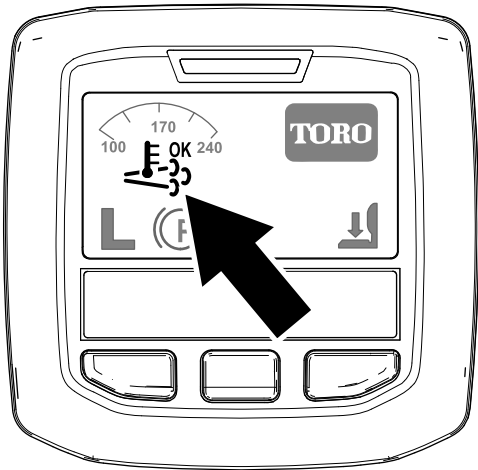

Figure 38
- The assist/reset-regeneration icon displays in the InfoCenter (Figure 38).